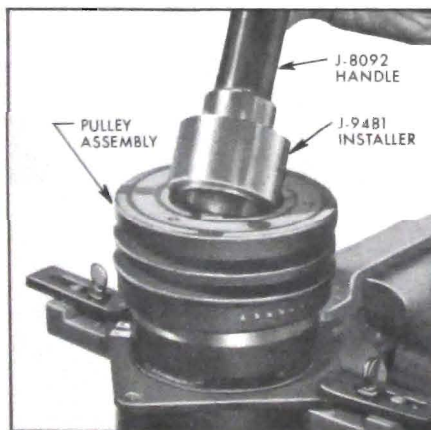

Figure 11-105—Installing Pulley Assembly
3. Support bottom of compressor and press or tap the pulley and bearing assembly on the neck of the compressor, using J-9481 installed on J-8092 as shown. See Figure 11-105. Pulley should rotate freely.